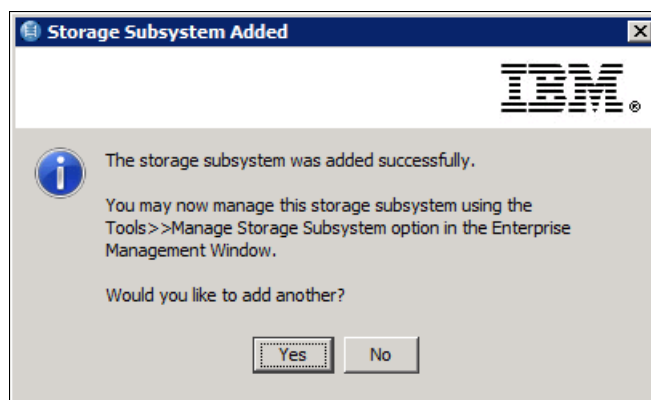

Figure 4-29 Storage Subsystem Added
4. Click **Add** to complete the process. After the storage subsystem is successfully added, you can add another storage subsystem, as shown in Figure 4-29, and you can repeat the process until all the storage subsystems that you want to add are added.